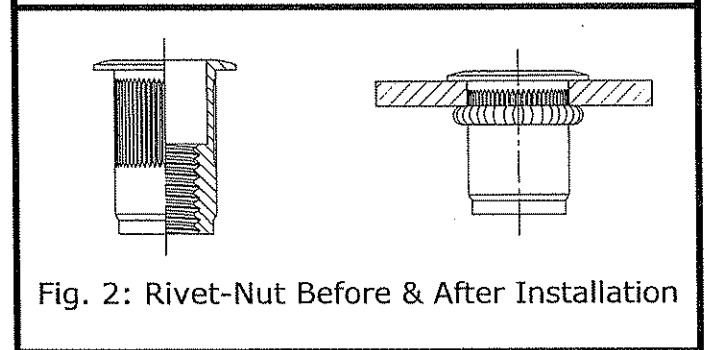

Fig. 2: Rivet-Nut Before & After Installation
8. Continue to turn the screw until firm resistance is felt, indicating that the rivet-nut is compressed to the sheet metal (see Fig. 2, about 6 to 7 complete turns are required).